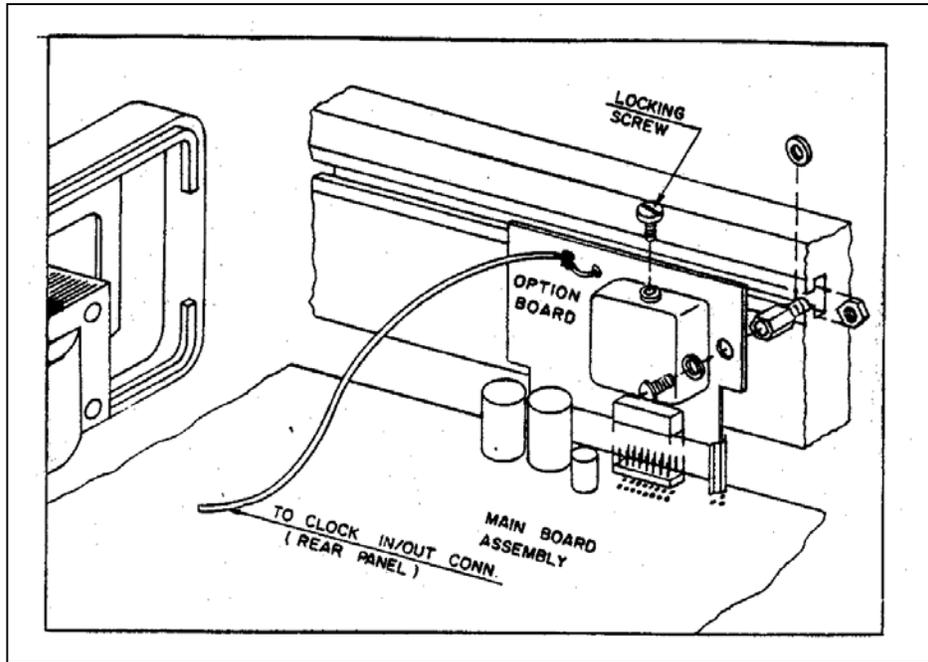

Figure 5-1. TCXO/Clock Multiplier Option Field Installation.
3. Assemble and solder J4 and the card guide on the main board as shown in Figure 5-1.